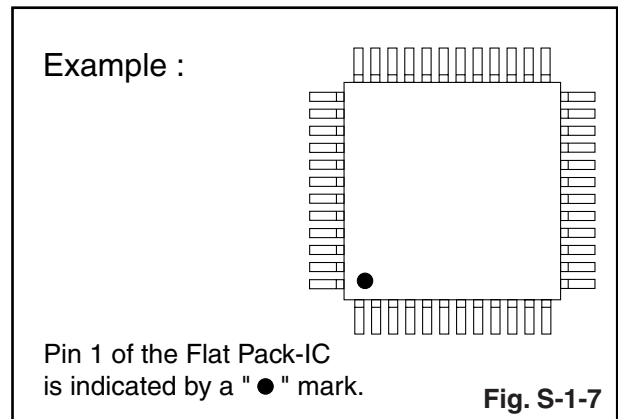
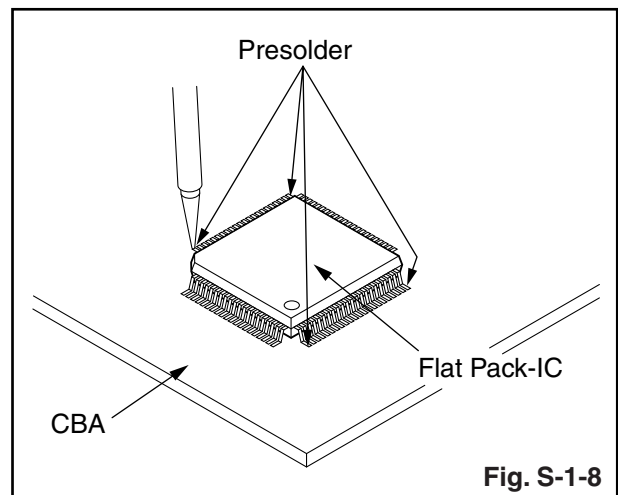

Fig. S-1-7
Fig. S-1-8
- (1) Using desoldering braid, remove the solder from the foil of each pin of the flat pack-IC on the CBA so you can install a replacement flat pack-IC more easily.
- (2) The "●" mark on the flat pack-IC indicates pin 1. (See Fig. S-1-7.) Be sure this mark matches the 1 on the PCB when positioning for installation. Then presolder the four corners of the flat pack-IC. (See Fig. S-1-8.)
- (3) Solder all pins of the flat pack-IC. Be sure that none of the pins have solder bridges.